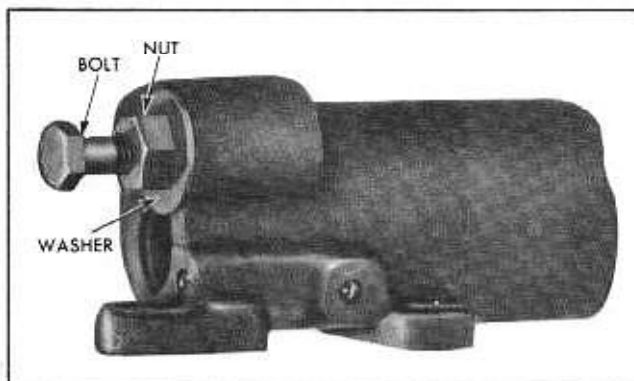

Fig. 9-40 Removing Connector
2. Remove connectors by using bolt threaded into tapped holes with washer and nut as an extractor and discard (Fig. 9-40).